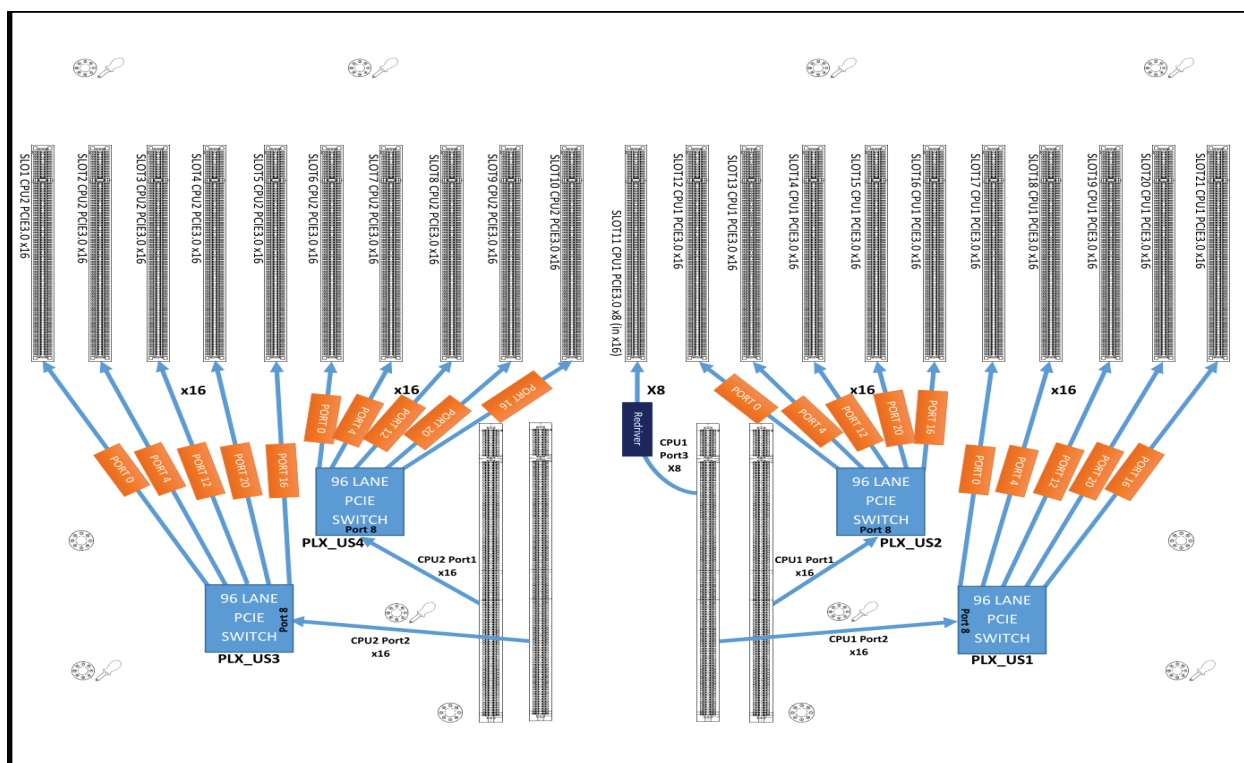

Figure 3-5. X11DPG-21-PCIE-P Daughterboard
3. Align the four PCI-E slots on the lower half of the daughterboard with the four riser cards. Connect the daughterboard to the riser cards by pressing the daughterboard onto the riser cards. See Figure 3-5 for the daughterboard layout.